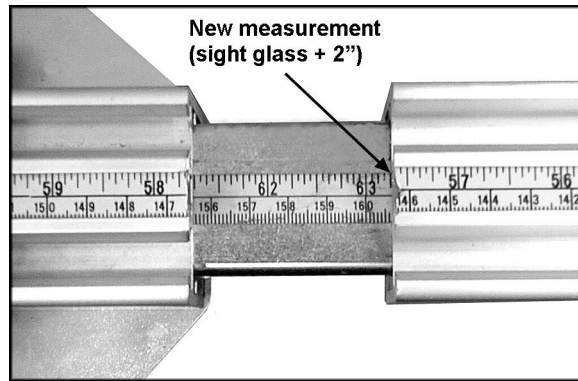

Figure 28
5. Add 2" to this measurement and slide out the extension until the new measurement is read at the end of the fixed fence (Figure 28). NOTE: Be careful to set this correctly, because the scale on the sliding fence reads opposite the scale on the fixed fence.